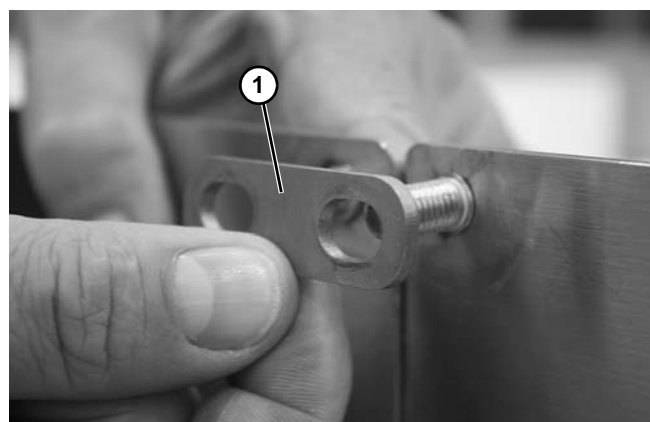

Figure 24
4. Install the connecting plate (**Figure 24, item 1**) over the studs.